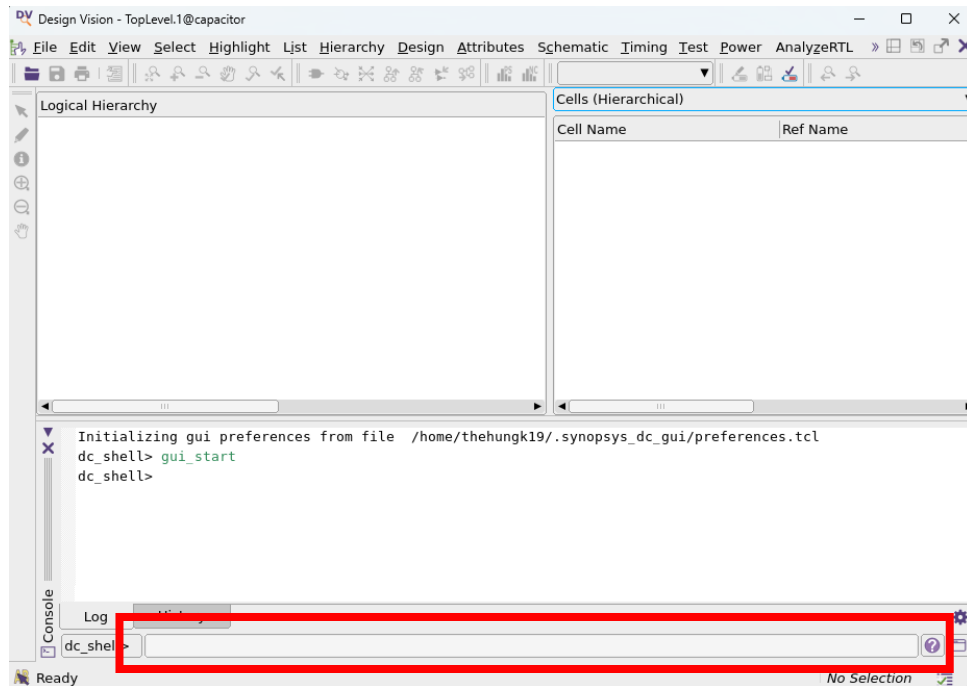

Fig.2. Application setup window
2. Put your cursor in the terminal to type commands (Fig. 2).